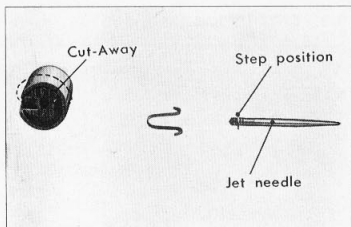

Figure 3-102. Jet needle and cut-away of the throttle valve
(1) Jet Needle
(2) Throttle valve cut-away. (Fig. 3-102)